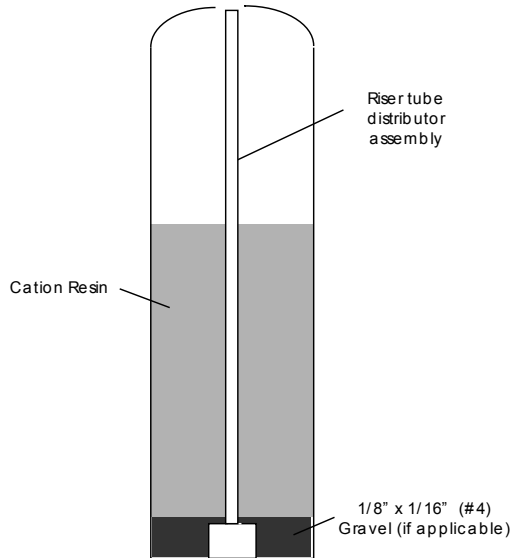

Figure 2-5: Softener vessel, riser tube, and media
- B. A riser tube distributor assembly has been shipped in each softener vessel (see Figure 2-5). Inspect the slotted basket (bottom distributor) to be sure it is not damaged. Also make sure that the top of the riser pipe is flush with the top of the tank flange when the basket is in the middle of the tank and flat on the bottom. Cover the top of the riser pipe with tape or a plastic cap to prevent gravel and resin from getting inside the riser pipe.